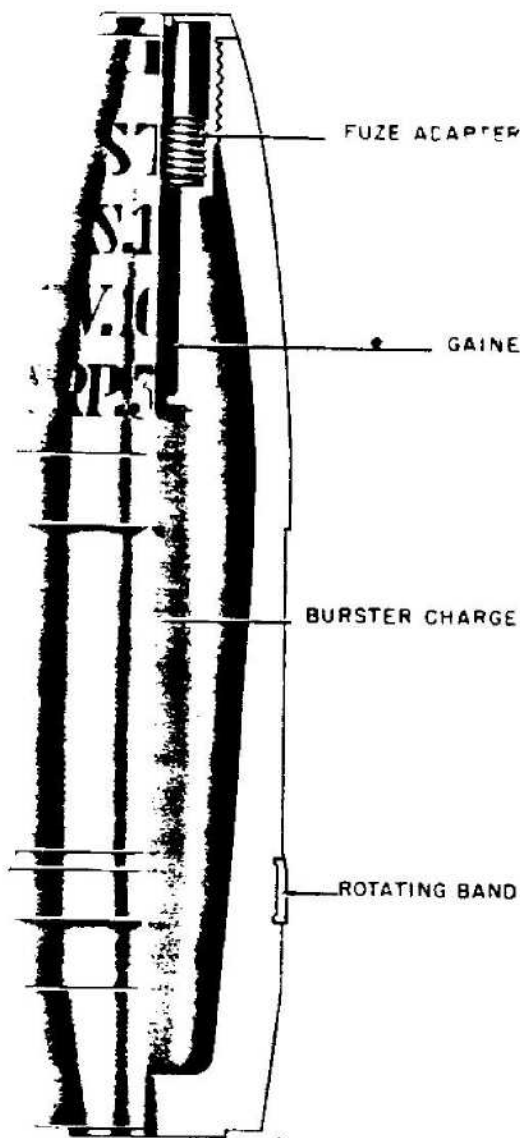

Figure 462—H. E. Projectile for French 105-mm Howitzer, 10.5-cm Gr. 346 (f)
**GERMAN NOMENCLATURE:** 10.5-cm Gr. 346 (f). (See fig. 462.)